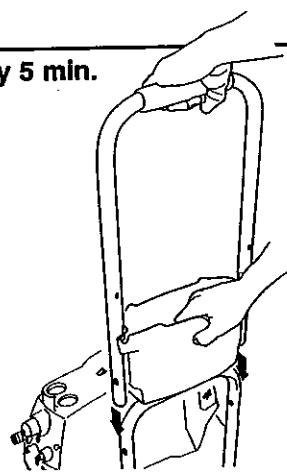

Fig 3
2. Slide the handle assembly down as shown in Fig. 3 while the storage bucket is being supported.